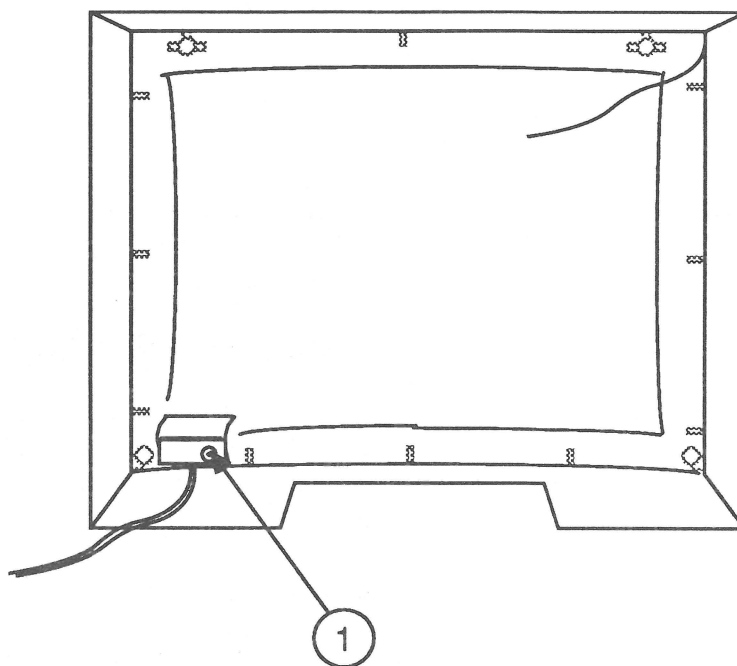
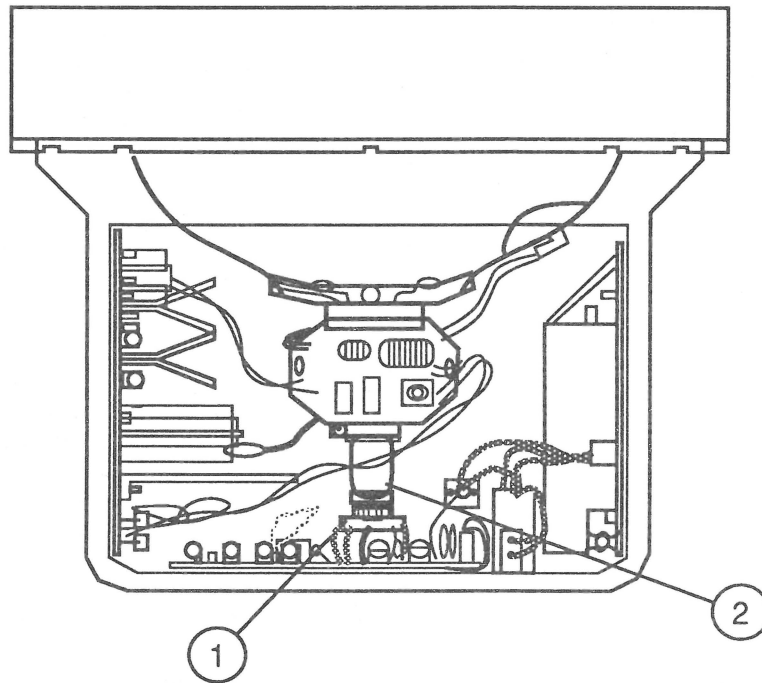

FIGURE 36
FIGURE 38
7. Remove the hex nut (Figure 36, #1) that secures the LED assembly and the black paper baffle to the front bezel.
2. Cover the LED assembly with the black paper baffle and replace the hex nut (Figure 36, #1) that secures both the LED and the baffle to the front bezel.
8. Pull the CRT socket (Figure 38, #1) off the neck of the CRT (Figure 36, #2).